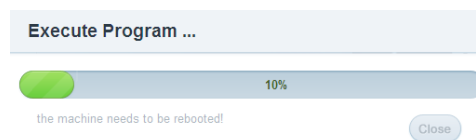

Figure 6 Execute Program ...
4. When a process bar “Execute Program...” as shown in Figure 6 appears showing “the machine needs to be rebooted!”, un-plug and re-plug the USB to re-power the MCU. The MCU will start to execute the updated program based on the selected mode. Now the present program update has been completed.